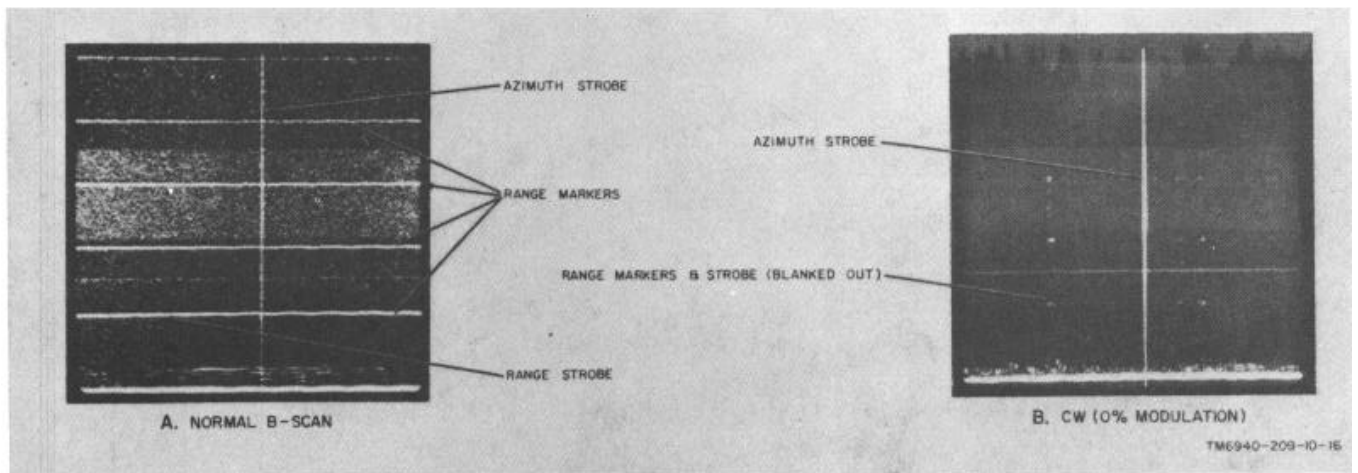

Figure 8. Normal B-scan and jamming by cw.
*b.* The cw jamming signal is a very confusing jamming signal in that it presents no identifying feature to the observer unless he is familiar with its action and uses this knowledge to determine whether his set is being jammed by such a signal. This mode of operation makes use of the unmodulated trainer carrier. For external modulation, a modulator must be plugged into the EXT MOD jack on the front panel of the radar trainer control unit. The presentation illustrated in B, figure 8 shows the effect of unmodulated cw on a typical radar set. The rangemarkers and strobes are blanked out and the entire presentation appears dark.